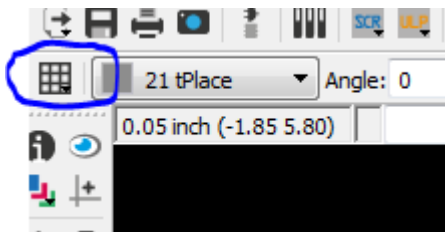

Figure 4
2. To create a box, it is necessary to check the units of measurement. Click the grid in the top left of the window as shown in **figure 4**. And set both of the drop down menus to inches.